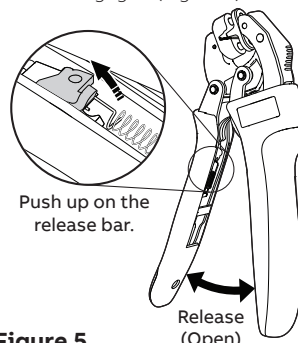

Figure 5
1. To release the SHURE STAKE® mechanism, push up on the release lever until the ratchet teeth are disengaged (Figure 5).